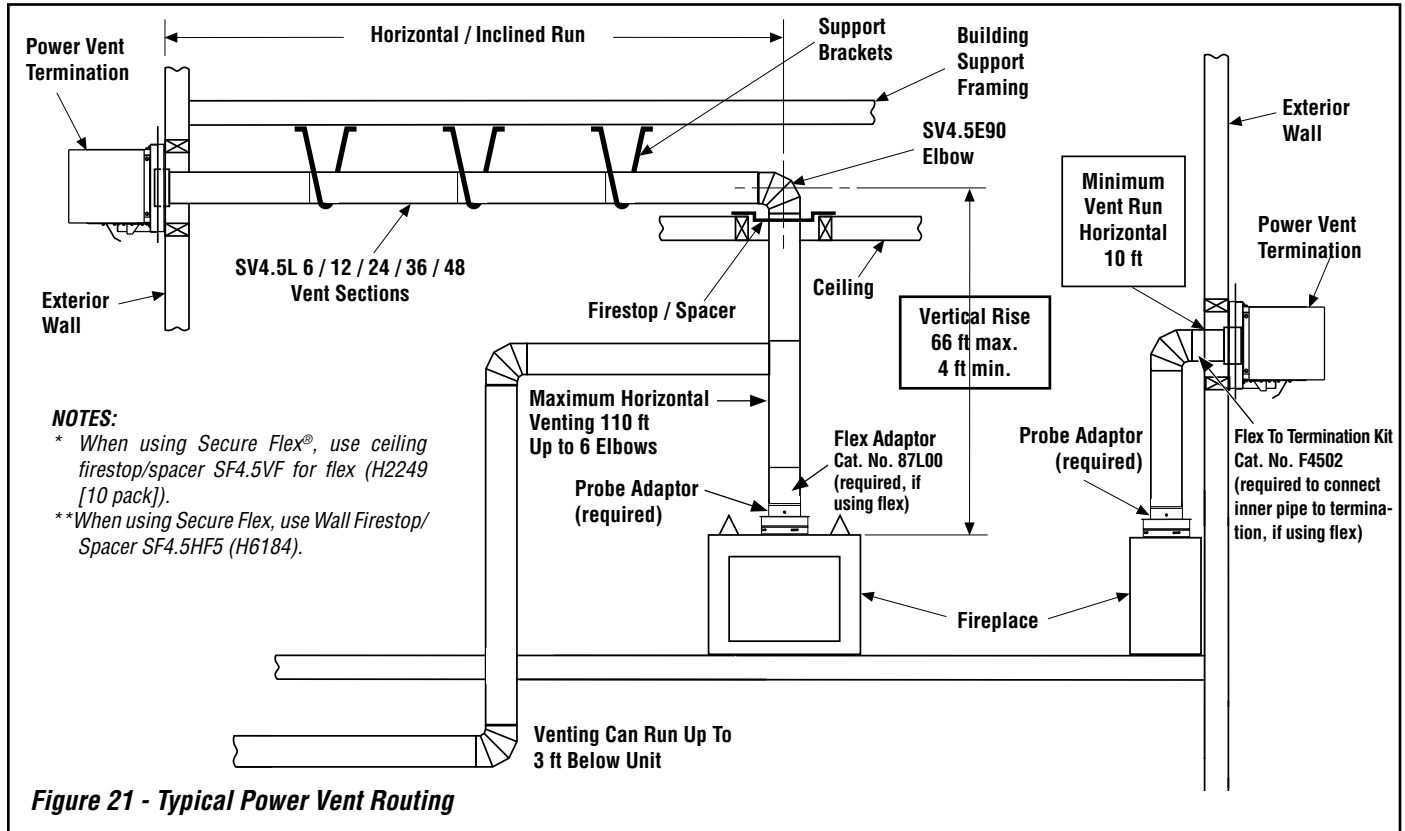
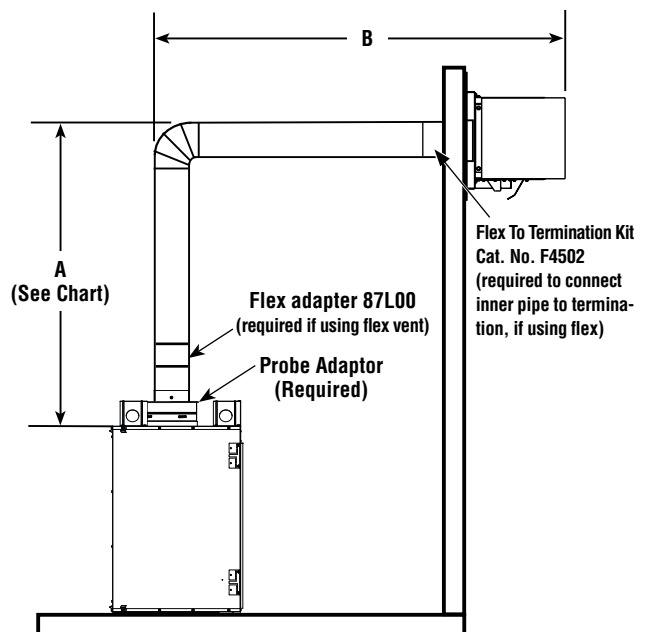

Figure 21 - Typical Power Vent Routing
Figure 22 - Power Vent Routing with Probe Adaptor
**C. Attach vent components to each other.** Other vent sections may be added to the previously installed section in accordance with the requirements shown in *Figures 21 and 22 on Page 19*.
**G. Continue installation of horizontal/inclined sections.** Continue with the installation of the straight vent sections in horizontal/inclined run as described in **Step C**. Install support straps every 3' (914 mm) along horizontal/inclined vent runs using conventional plumber's tape (*see Page 19, Figure 21*).
See **Figures 21 and 22 on Page 19** illustrating the various horizontal venting configurations that are possible for use with these appliances. The table in **Figure 22 on Page 19** shows each system's minimum and maximum vertical and horizontal length values that can be used to design and install the vent components in a variety of applications.
See **Figure 21 on Page 19**.